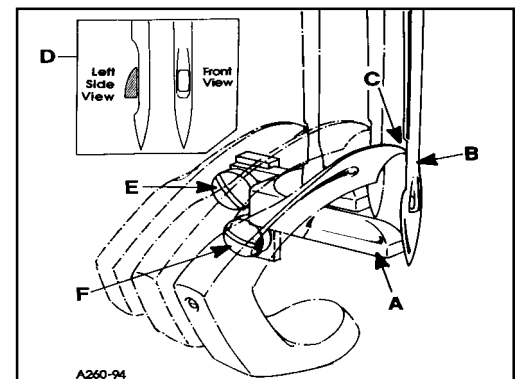
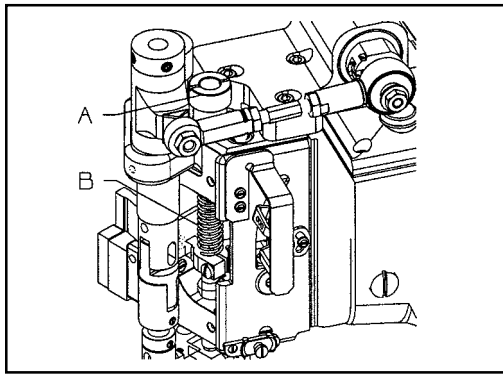
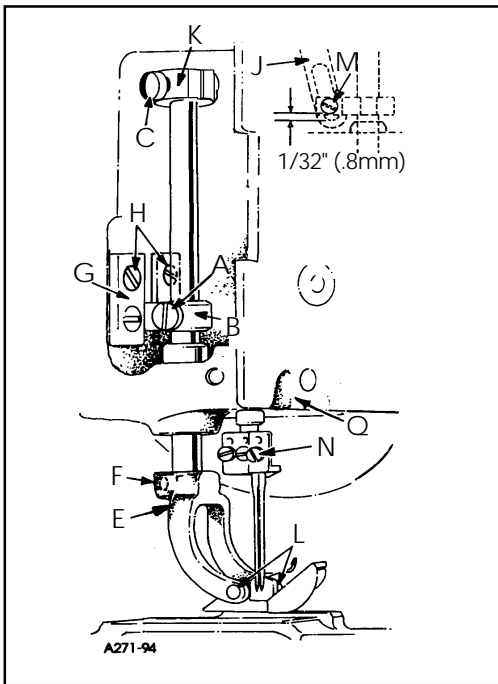

FIG. 13
FIG. 14
FIG. 15
Set the rear needle guard (A, Fig. 13) horizontally so that it barely contacts needles (B) when at its extreme forward position. If adjustment is necessary loosen screw (E) and move guard front to back as required. It should be set vertically as low as possible, yet have its guarding surface in contact with the needles until the points of the loopers (C), moving to the right, are even with the right side of the needles. If adjustment is necessary loosen screw (F) and move guard and holder up or down as required.
**NOTE:** When installing the needle it should be parallel with the eye in line of feed. If adjustment is necessary, loosen screw (N, Fig. 15) in needle head and rotate needle to attain adjustment (D, Fig. 13).
Remove presser bar knob (A, Fig. 14) and spring (B). Loosen screw (A, Fig. 15) on presser bar guide (B). (Loosen screws (C) in upper stop collar for pneumatic machines only). Slide presser bar upward high enough to slip on presser foot yoke (E) with foot attached and tighten screw (F) on flat of presser bar. Position foot so that the needle holes in the foot line up with the holes in the throat plate. Tighten screw (A)
Presser foot guide plates (G, Fig. 15) should be set so that entire presser foot and bar assembly has free movement up and down with no left to right movement.
Reinstall presser bar spring (B, Fig. 14) and knob (A), with presser foot resting on throat plate.
The presser foot should be adjusted to be 1/8" (3.17mm) above the throat plate before the feed roller mechanism begins to rise. Loosen screw (A, Fig. 15) in presser bar lifter and guide (B, Fig. 15), raise or lower guide as required to attain the specified point at which the feed roller begins to rise. Retighten screw (A) and maintain needle settings.
NOTE: There should be a minimum 1/32" (0.8mm) clearance between screw (M, Fig. 15) and the bottom of the slot in link (J).
Regulate the pressure on the presser foot by turning the presser spring regulating knob (A, Fig. 14) located on top of pressure foot spring (B).
To remove just the presser foot, remove screws (L, Fig. 15) and replace foot, retighten screws (L).